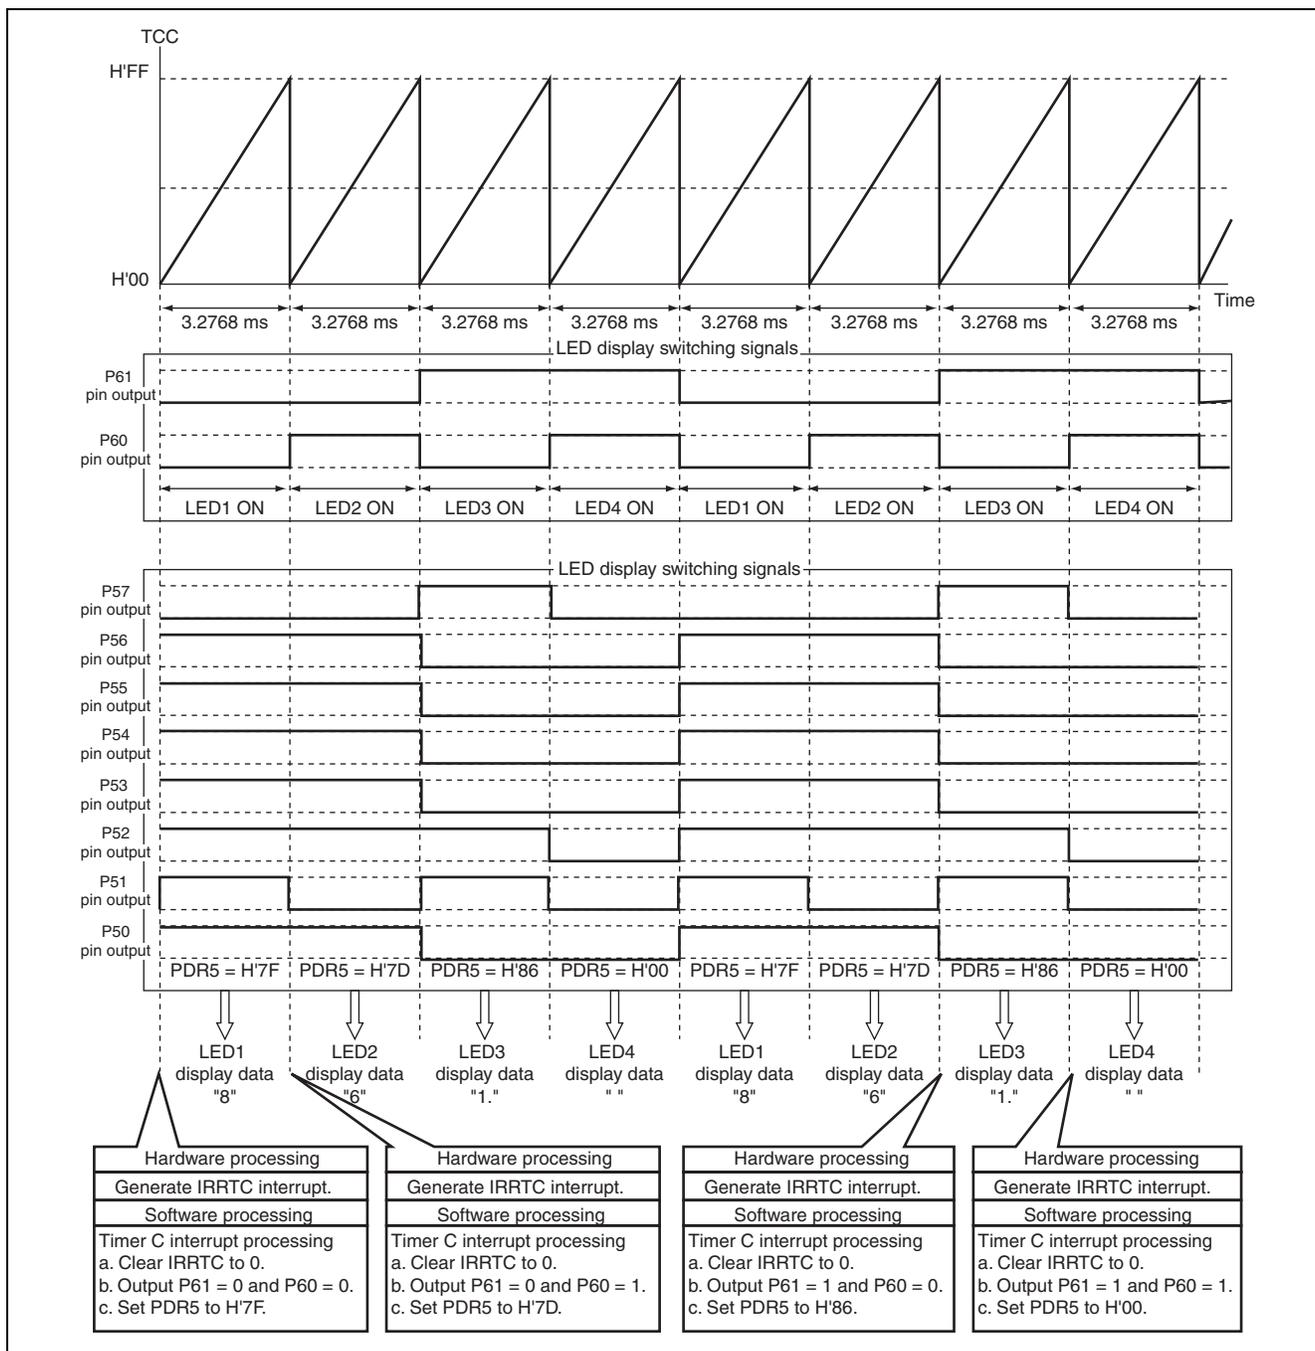

Figure 3.2 Operation Principle of 7-Segment LED Display Control
2. The principle applied in controlling the 7-segment displays is explained below. Figure 3.2 depicts the situation where "1.68" is being displayed on LED4 to LED1. As the figure shows, the next display in sequence of LED1 to LED4 is lit up each time a timer-C overflow period elapses, creating a dynamic display on the 7-segment LEDs.